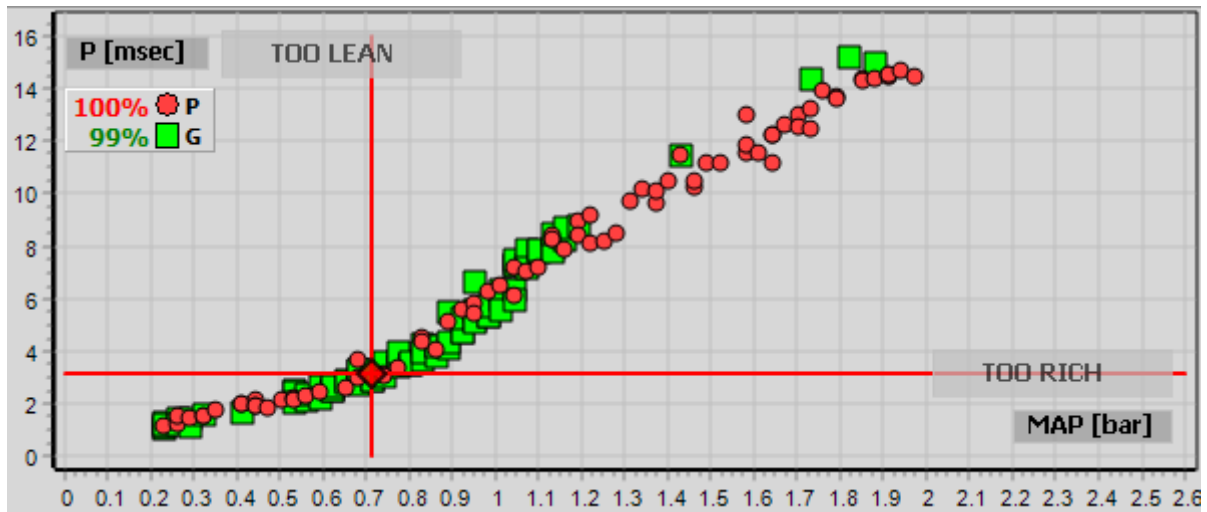

Fig. 2.100 Overlapping gasoline and gas maps
- Repeat the procedure to achieve full coverage of the gas and gasoline map points (Fig. 2.100).